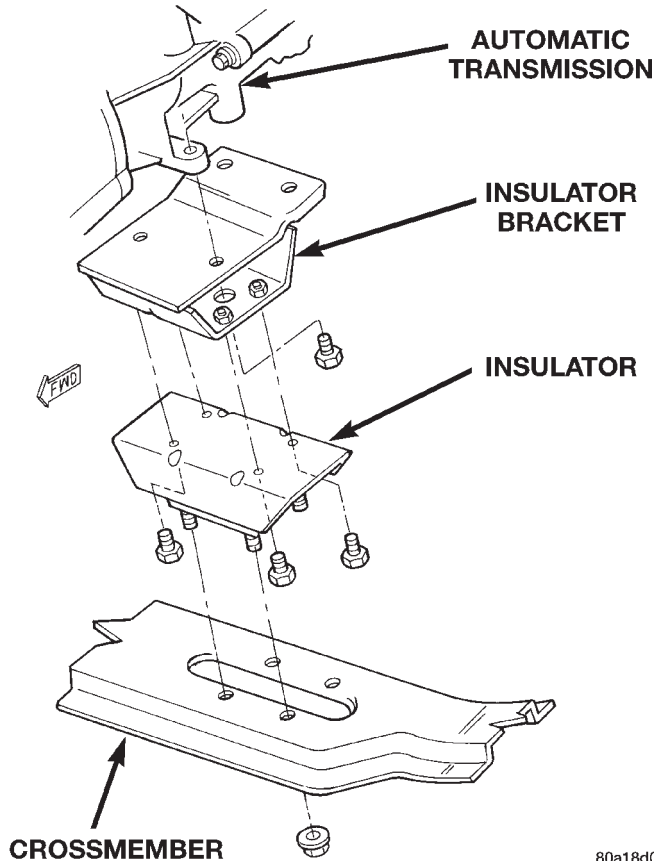

Fig. 16 Rear Engine Mount Insulator Removal/Installation
- (4) Remove stud nuts holding the insulator to the crossmember (Fig. 16).
- (5) Raise rear of transmission SLIGHTLY.
- (6) Remove bolts holding the insulator to the insulator bracket (Fig. 16). Remove the insulator.
- (1) If the insulator bracket was removed, install the bracket to the transmission (Fig. 16). Tighten the bolts to 68 N·m (50 ft. lbs.) torque.
- (2) Install the bolts holding insulator to insulator bracket. Tighten the bolts to 68 N·m (50 ft. lbs.) torque.
- (3) Lower rear of transmission while aligning the insulator studs into the mounting support bracket. Install stud nuts and tighten to 68 N·m (50 ft. lbs.) torque.
- (4) Remove the transmission jack.
- (5) Lower the vehicle.
- (6) Connect the negative cable to the battery.